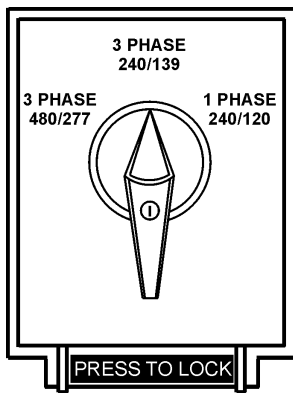

Figure 13. Voltage Change-Over Switch
A wide range of voltages are available to supply voltage for many different applications. Voltages are selected by using the **voltage selector** switch (Figure 13). To obtain some of the voltages as listed in Table 7 (see below) will require a fine adjustment using the **voltage regulator (VR) control knob** located on the control panel.
The voltage selector switch (Figure 13) is located above the output terminal panel's Hard Wire Hook-up Panel. It has been provided for ease of voltage selection.